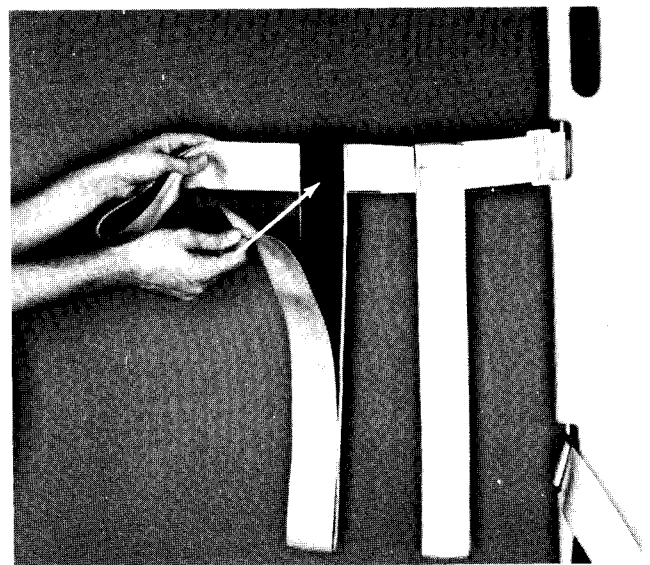

Figure 1.2
- 1.2 Open the harness system as demonstrated in Figure 1.2 by removing one strap at a time and folding it in half (velcro™ side inward). This procedure will prevent adjacent straps from becoming tangled together prior to securing the victim to the board.